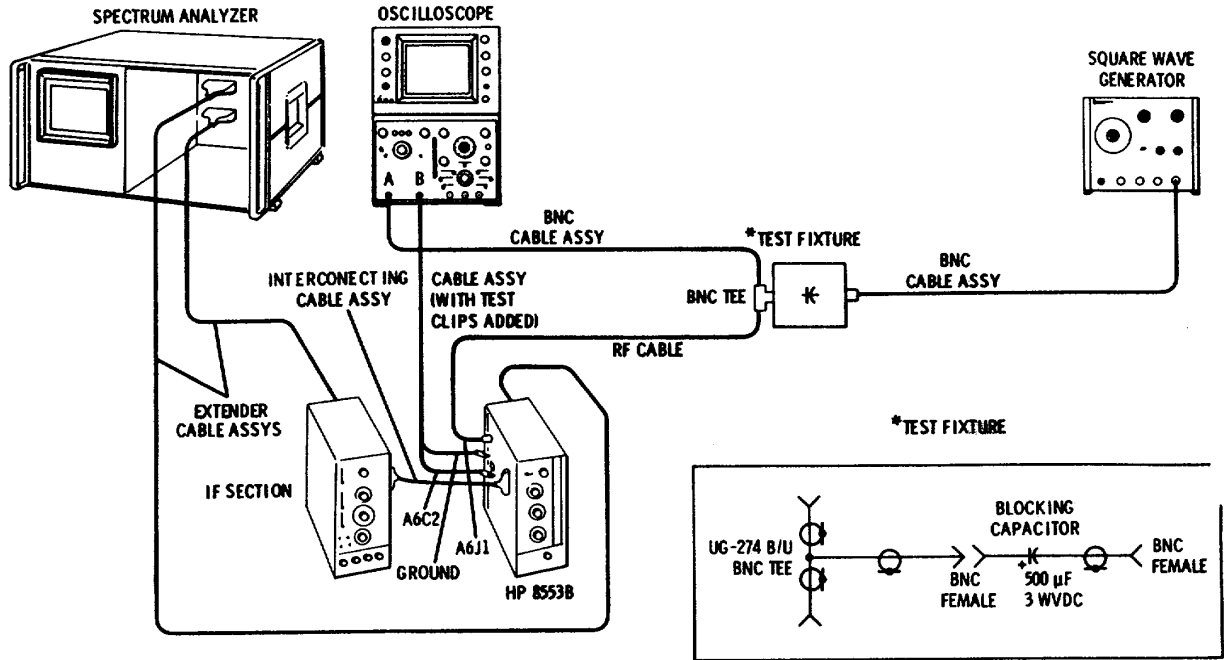

Figure 5-11. APC Sampler Adjustment Test Setup.
1. Connect the test setup in Figure 5-11. Set the controls as follows: